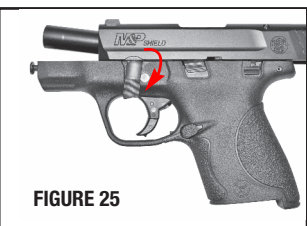

FIGURE 25
- Rotate the take down lever 90 degrees clockwise (FIGURE 25).